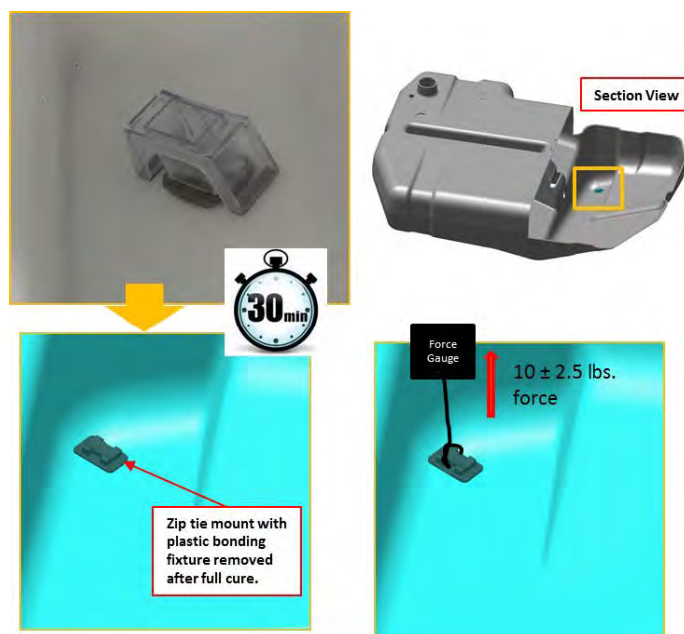

FIGURE 10-15
4. Proof load test the Cable Tie Anchor Mount installed on the interior of the Fuel Tank after at least 30 minutes has elapsed. See Figure 10-15.